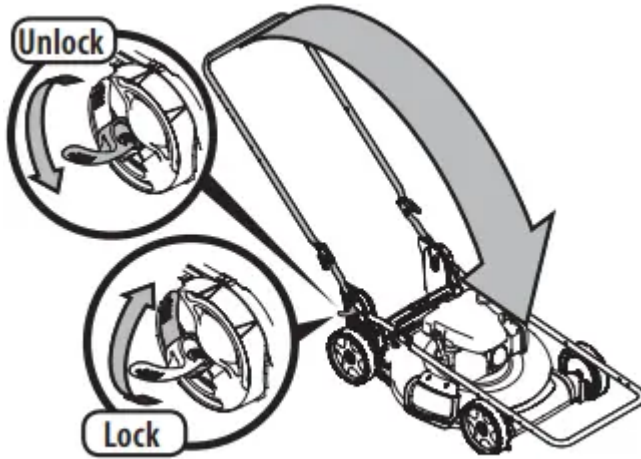

Figure 32
3. Unlock the two handle release levers. See inset Figure 32.
4. Fold the handle forward to the storage position (Figure 32). Do not crimp blade control cable or the drive control cable (if equipped) while lowering the handle.
5. Lock the two handle release levers (inset, Figure 32).
9. To unfold the handle, unlock the two handle release levers (inset, Figure 32) and perform STEPS 5-8 in ASSEMBLY, Vertical Storage Handle